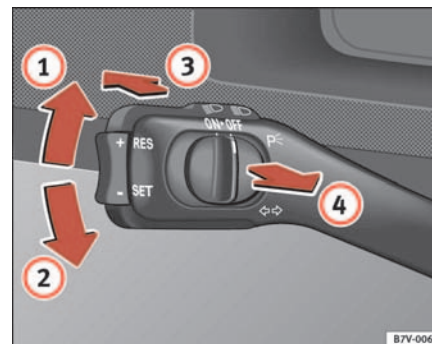

Fig. 74 Turn signal and main beam headlight lever
- Move the lever all the way up ⇒ page 111, fig. 74 ① to indicate **right**, and all the way down ② to indicate **left**.